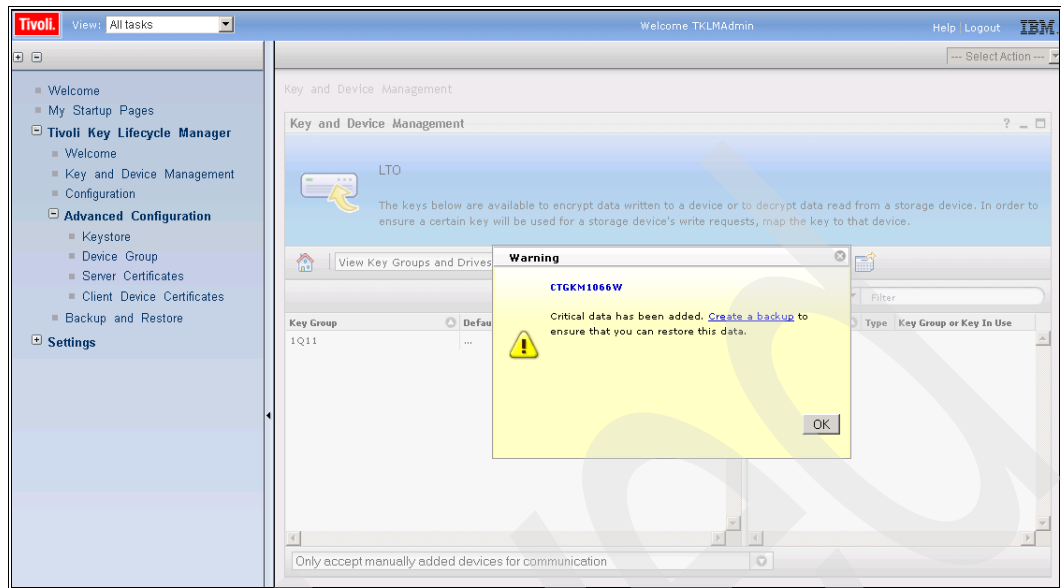

Figure 9-43 Create key group warning message
- You are advised to create a backup (Figure 9-43). Click **Go** to continue.